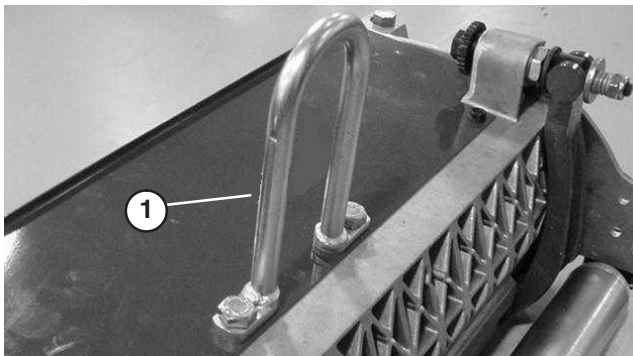

Figure 2
- Install hoop link to top of cutting unit with (2) capscrews. Torque capscrews to 25–30 ft-lbs. (34–40 N·m) (Fig. 2).
Note: An optional Lift Hook, Toro Part No. 106-6938 may be used in place of the chain link, if desired (Fig. 2). It may be obtained from your local Toro Distributor.